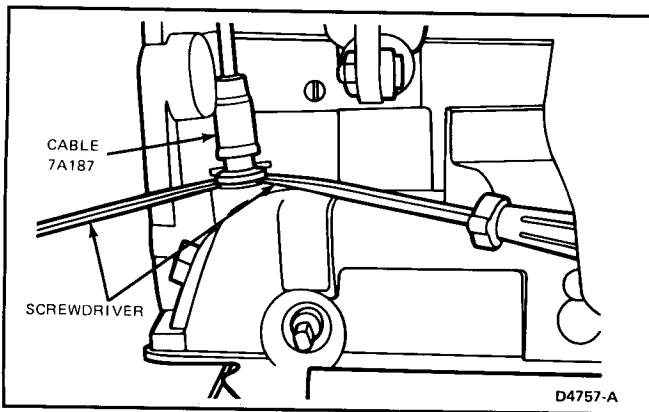

FIG. 23 Kickdown (TV) Cable to Transmission Case—Removal and Installation
- Pry the cable out of the case with two screwdrivers as shown (Fig. 23).